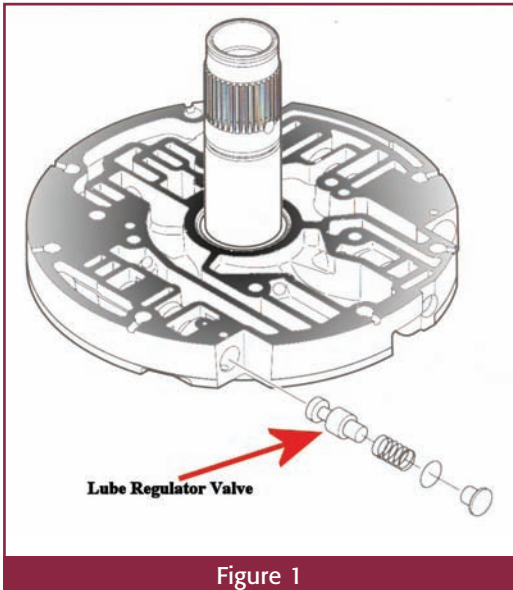

Figure 1
- Inspect for a sticking or damaged lube regulator valve (figure 1). An updated valve kit is available for earlier applications under GM part number 88996718. This kit is designed to reduce the chance of air